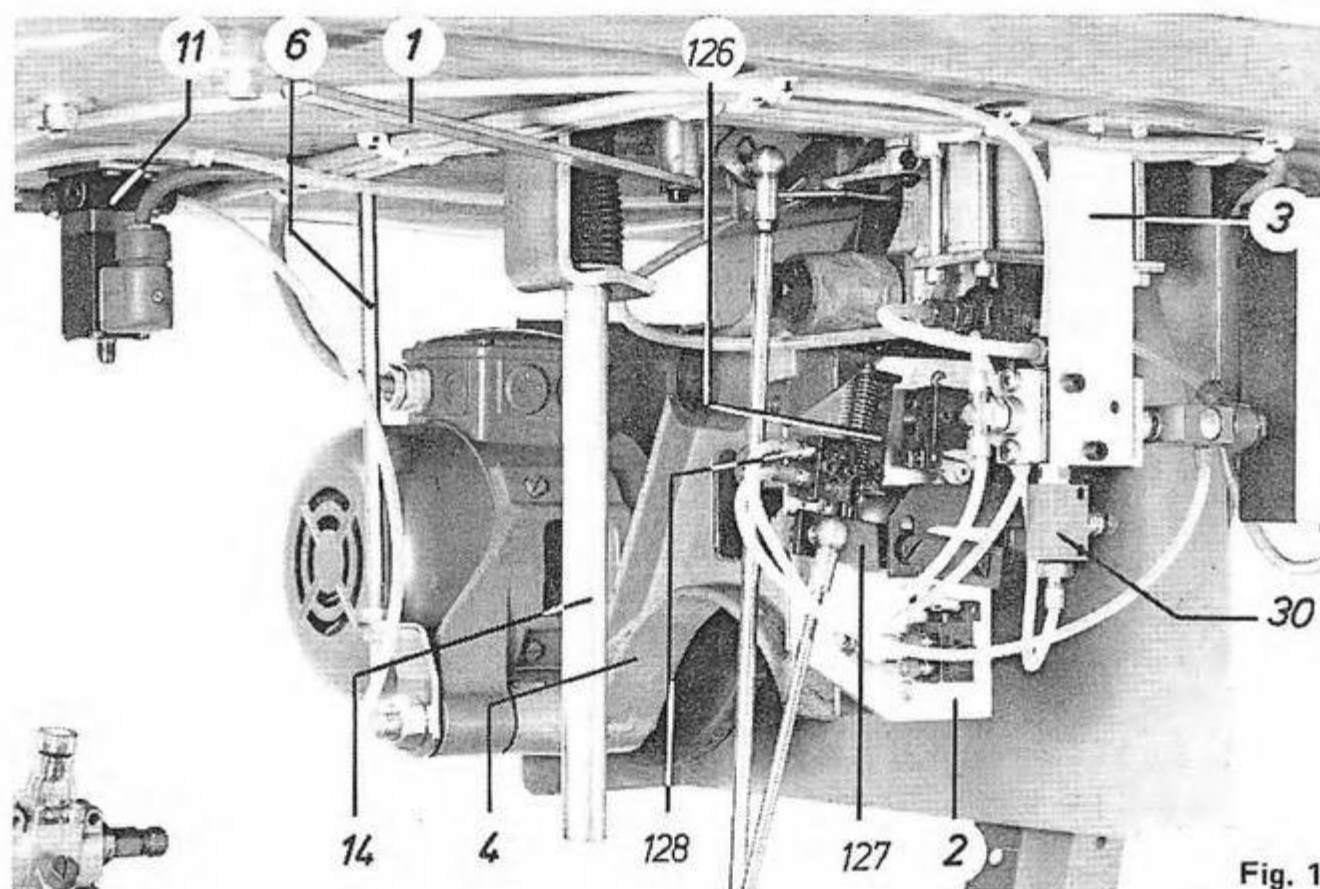

Fig. 1
3. Set the base in the table top and fasten to the metal connections. Fasten the lever 1 (fig. 1) with torsion spring to the base underside.
4. Fit the bearing block 4 according to figs. 1 (longitudinal installation) or 2 (transversal installation). Shift the belt pulley set 5 (fig. 2a) consisting of two belt pulleys onto the bearing shaft and fasten it. When shifting, place simultaneously the V-belt onto the small belt pulley. If the large belt pulley knocks against the table edge, swing the bearing block 4 sideways.
5. Fasten the mounting plate 2 (figs. 1 and 2) with the switching elements to the bearing block 4 by nuts and safety rings.
7. Fasten the motor to the bearing block 4. Fit at the same time the safety bar 6 (fig. 1).
12. Screw the solenoid valve 11 (figs. 1 and 2) under the table top.
15. Erect the machine head and fasten the machine support 14 (figs. 1 and 5) by a split pin.
19. Adjust the stop 126 (fig. 1) so that there is a small gap between the lever 127 and the tappet of the valve 128. Note furthermore, that with the pedal being lowered forwards or backwards down to the stop, the valves should not be operated more than is required for their safe function and so that the tappet is not pressed in the housing against the stop. Regulate the valves accordingly after loosening their fastening screw.
21. Place the flat belt on the machine head pulley so that the leather surface is inside and so that the arrow shows in the direction of rotation of the machine. By swinging the bearing block 4 (figs. 1 and 2) tension the flat belt. For further instructions see the basic instructions.
26. Connect the compressed air hoses according to the enclosed pneumatic element plan and according to figs. 1 to 5 and 11.
29. Adjust the throttle 30 (fig. 1) so that the cloth presser frame is lifted quickly but not too suddenly. If it is lifted too quickly, the lower thread will be torn off.
If it is necessary to stop the machine during the sewing process = quick stop, heel down the l/h pedal. The lever 1 (fig. 1) will be locked. For restarting the machine said lever must be unlocked.